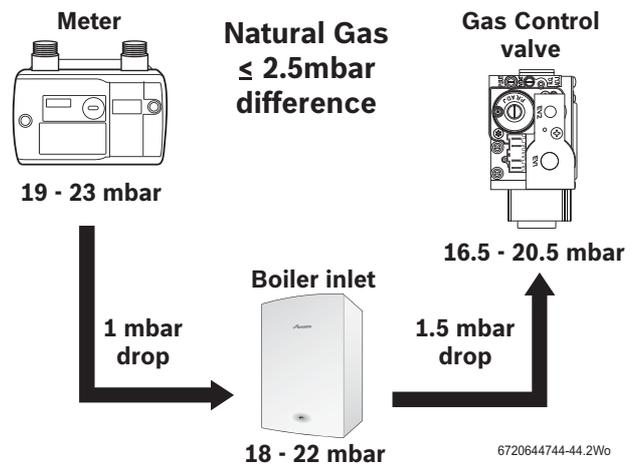

Fig. 68 Natural gas pressures
- ▶ Slacken the screw in the inlet pressure test point (1) and connect a manometer.
- ▶ Check the gas supply working pressure at the gas valve inlet point is no less than the values shown in figures 68 or 69.